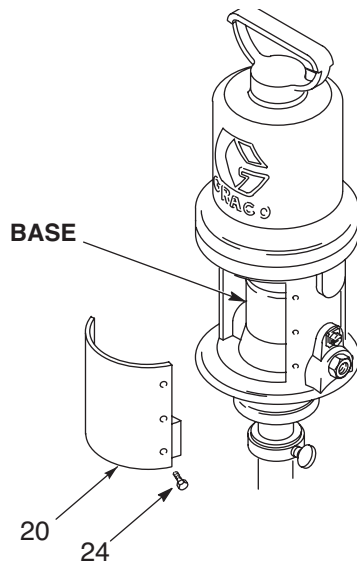

FIG. 12
2. Remove the six screws (24) using a 1/4" nut driver. Remove the muffler plate. (FIG. 12)
5. Replace the muffler cover and the six screws (24). (FIG. 12)